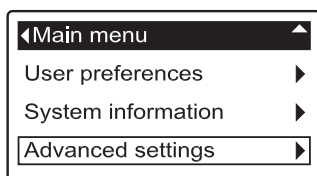

FIG. 67
1. From any of the rolling status screens, press the SELECT (O) button to display the **Main menu**.
2. Press the DOWN (▼) button to scroll through the menu options until **Advanced settings** is highlighted (See Figure 67).